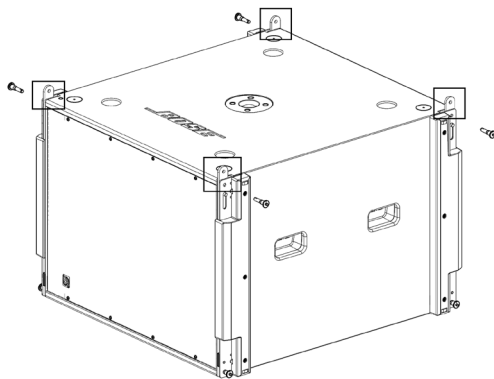

Fig. 3. Raise links on subwoofer
7. Raise each of the four corner links on the subwoofer by removing the pin, sliding the link switch from the STOW position to the LINK position, and replacing the pin. See Fig. 3.